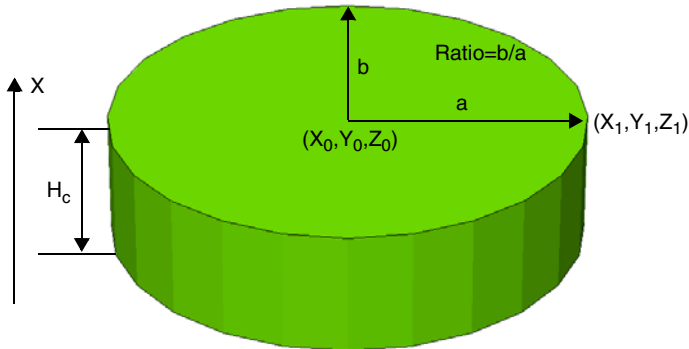

Figure 71 Elliptic cylinder-shaped polyhedron
- `angle` is the rotation angle in degrees (see Figure 71).